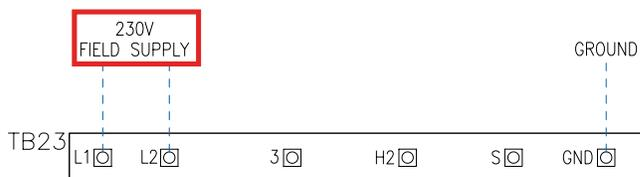

Figure 2-2
3. Connect main power to the evaporator unit at the L1/L2 and GND terminals on the terminal board as shown in the wiring diagram (Figures 2-2, 2-3).